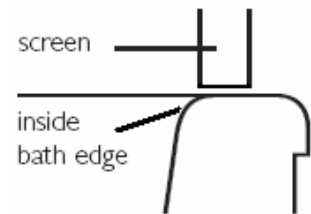

FIG 2
1. Position the wall profile **V1118** so the moving panel sits on the inside edge of the bath. **Fig 2**.